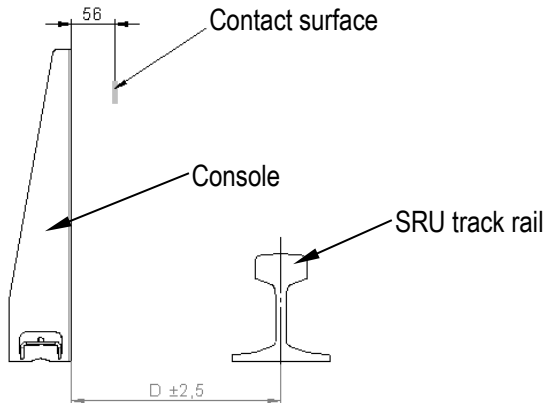
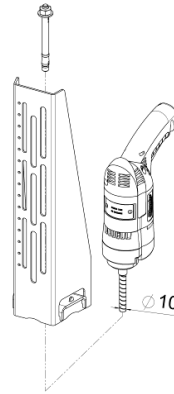

Fig. 15: Distance of console to contact surface and to SRU track rail
Fig. 16: Dowel (Order No.: 08-3290557) according to manufacturer's instructions
- Align the distance of the console using the SRU track rail (see Fig. 15) and drill a hole $\varnothing 10$ mm with a drilling depth of at least 60 mm onto the installing surface for the dowels (see Fig. 16).
The consoles must also be aligned with the SRU track rail (see Fig. 15).